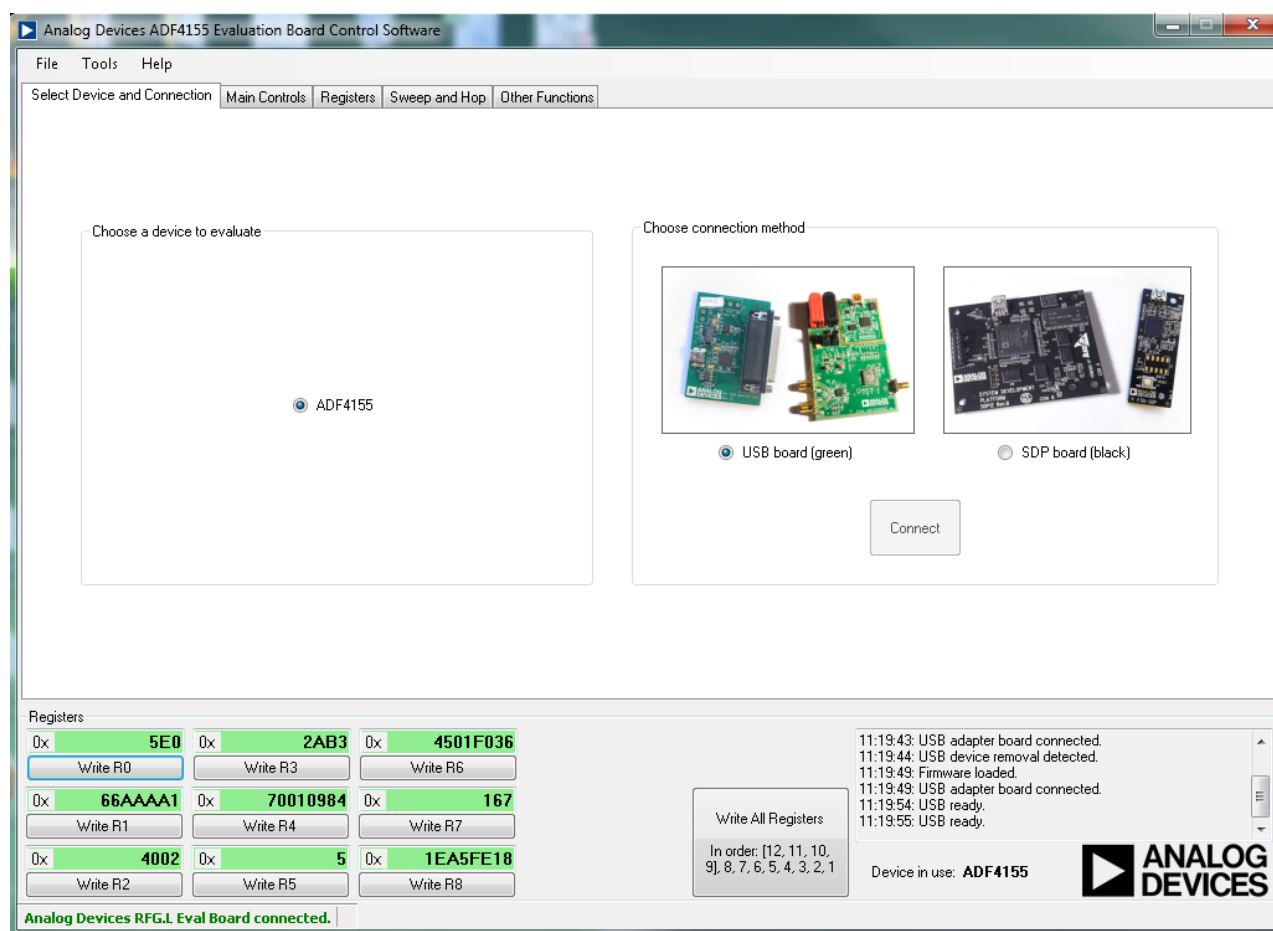

Figure 2. Software Front Panel Display—Select Device and Connection
2. On the **Select Device and Connection** tab, choose ADF4155 and **USB board (green)**, and then click **Connect** (see Figure 2).